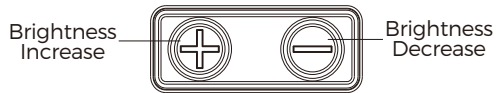

Fig 7
1. Power ON: Press and release either brightness button ("+" or "-") to turn on the sight. (See Fig 7)